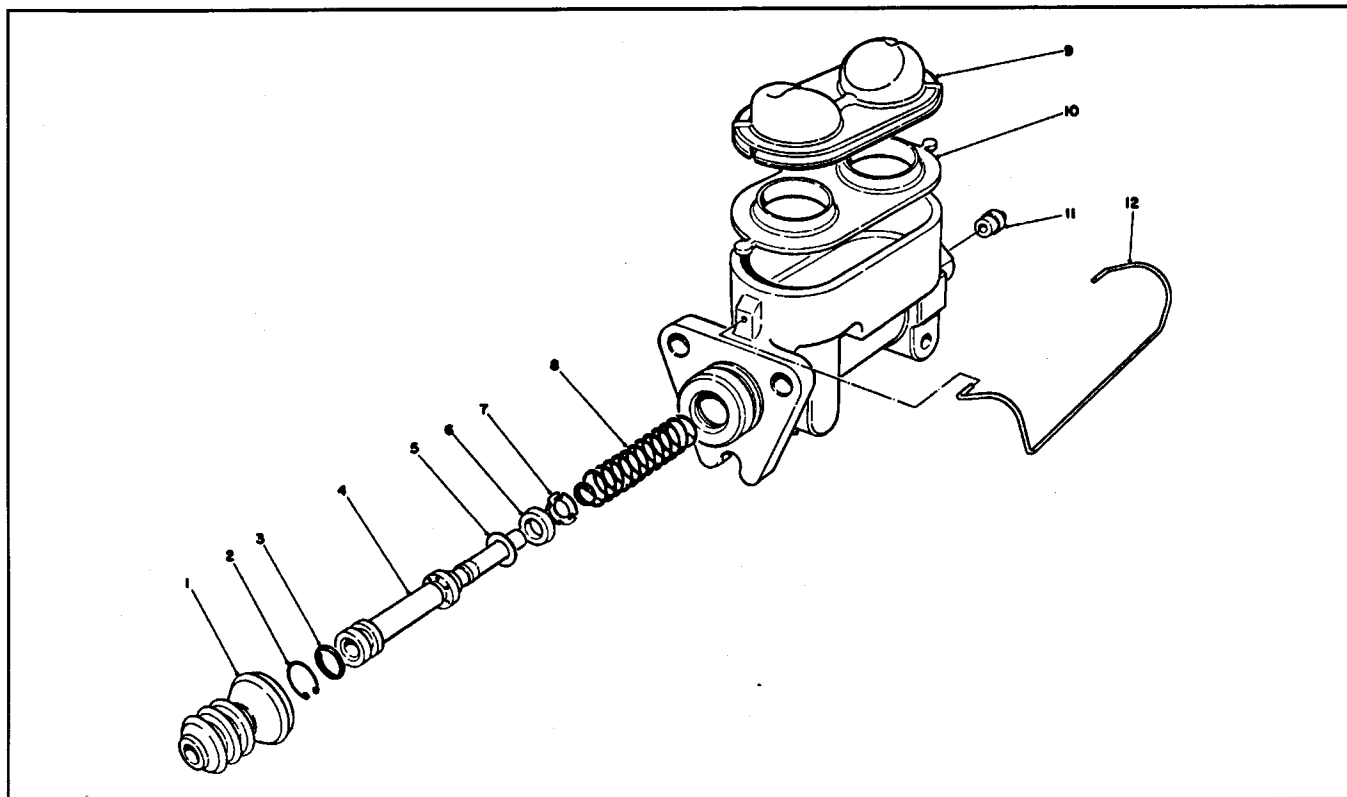

Figure 31
2. Remove three (3) capscrews and locknuts securing master cylinder to frame. Remove master cylinder.
3. Remove rod boot (Fig. 31, Item 1).